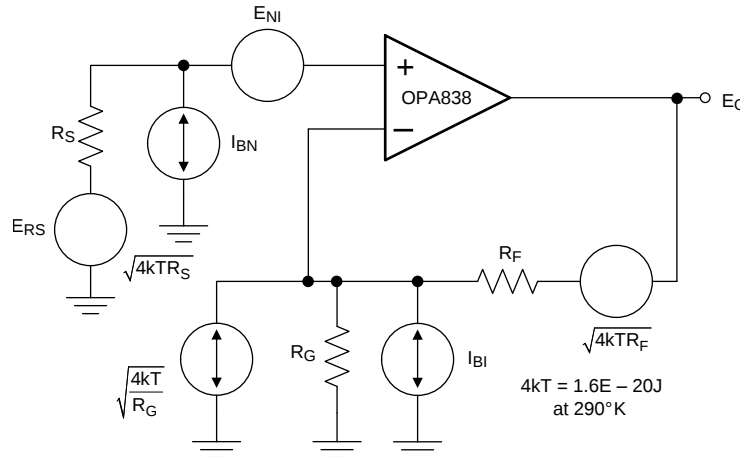
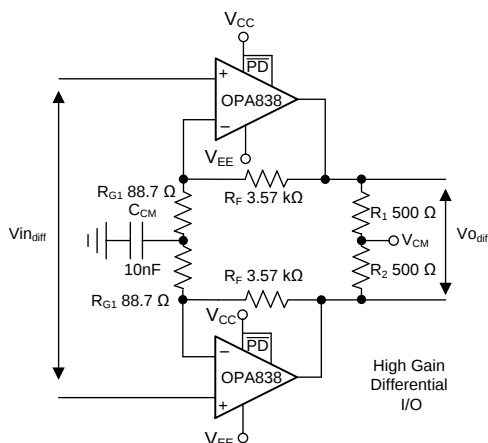
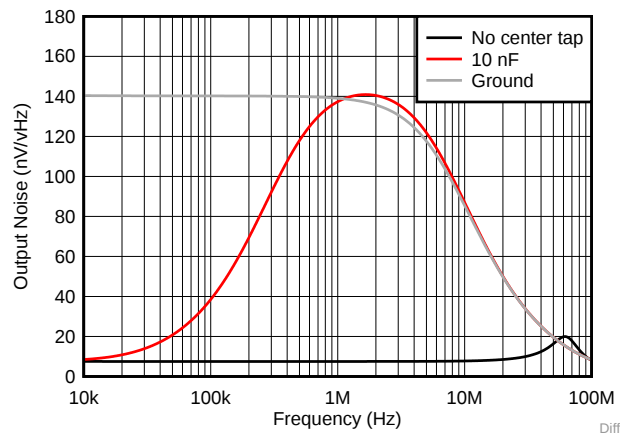

Figure 76. Op Amp Noise Analysis Model
Figure 77. High-Gain Differential I/O Stage
Figure 78. Common-Mode Output Noise for Differential I/O Design
The decompensated voltage feedback of the OPA838 op amp offers among the lowest input voltage and current noise terms for any device with a supply current less than 1 mA. Figure 76 shows the op amp noise analysis model that includes all noise terms. In this model, all the noise terms are shown as noise voltage or current density terms in $\text{nV}/\sqrt{\text{Hz}}$ or $\text{pA}/\sqrt{\text{Hz}}$.
The total output spot noise voltage is computed as the square root of the squared contributing terms to the output noise voltage. This computation is adding all the contributing noise powers at the output by superposition, then taking the square root to return to a spot noise voltage. Equation 3 shows the general form for this output noise voltage using the terms presented in Figure 76.
A high-gain differential-to-differential I/O circuit can be used to drive a second-stage FDA or a differential-to-single-ended stage. This circuit is frequently used in applications where high input impedance is required (for example, if the source cannot be loaded). Figure 76 illustrates an example design where the differential gain is 41 V/V . An added element between the two R_G resistors increases the noise gain for the common-mode feedback. It is important to provision for the added element because a decompensated VFA (like the OPA838) often oscillates without it in this circuit. With only the R_G elements in the differential I/O design, the common-mode feedback is unity-gain and often causes high-frequency, common-mode oscillations. To resolve this issue, split the R_G elements in half and add a low-impedance path such as a capacitor or a DC reference between the two R_G values.
As an example design, start with the circuit in Figure 77.
- Assess the DC common-mode biasing on the noninverting inputs. The DC biasing must be in range and have a gain of 1 to the output. This is not illustrated in Figure 76.
- If a DC reference is used as the mid- R_G bias, setting the reference equal to the noninverting input bias voltage sets the output common-mode to that voltage. Using a capacitor as illustrated in Figure 76 accomplishes the same results.
- Set the total R_G value near the high gain values using Table 1. This $178\text{-}\Omega$ total must be split for a center tap to increase the common-mode noise gain, as shown by the $88.7\text{-}\Omega$ value in Figure 77.
- Simulate the common-mode noise with different elements on the R_G center tap, as shown in Figure 78. Decide which is most appropriate to the application.
The common-mode loop instability without the R_G center tap is not often apparent in the closed-loop differential simulations. It can often be detected in a common-mode output noise simulation as Figure 78 shows. Grounding the inputs Figure 77 and running a output noise simulation for the common-mode tap point in Figure 76 shows a peaking in the noise at high frequency. This peaking indicates low-phase margin for the common-mode loop. Figure 78 shows this peaking in the lowest noise curve, with two options for improving phase margin. The first option used in Figure 77 is a capacitor to ground set to increase the common-mode noise gain only at higher frequencies. This can be seen by the peaking in the common-mode noise of Figure 78. Another alternative is to provide a DC voltage reference on the R_G center tap. This raises the common-mode noise gain from DC on up in frequency. Neither of these latter two show any evidence of low phase margin peaking. They do increase the output common-mode noise significantly at lower frequencies. Typically, an increase in output common-mode noise is more acceptable than low-phase margin as the next stage (FDA, ADC, differential to single stage) rejects common-mode noise.